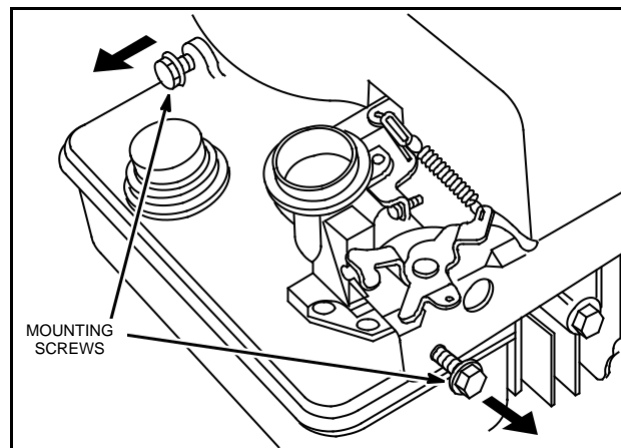

Fig. 142 - REMOVING MOUNTING SCREWS
1. Remove carburetor and fuel tank assembly mounting bolts, Fig. 142.